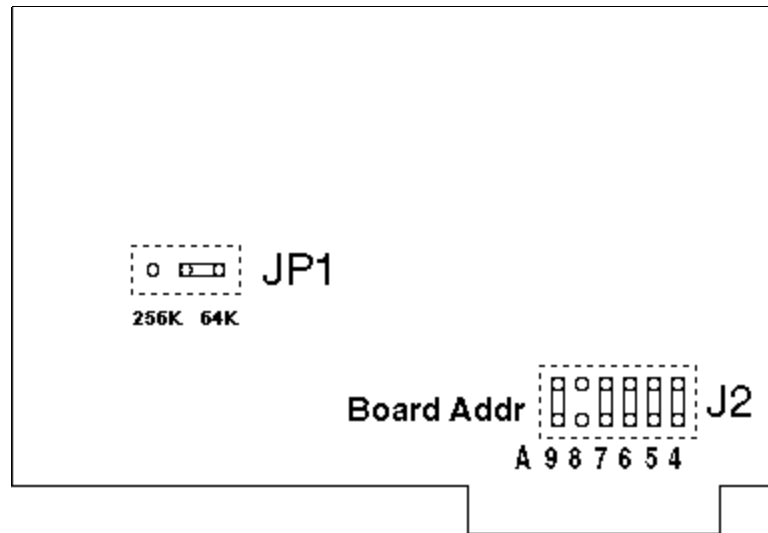

Figure 68. 64K Advanced Trace Board Jumpers and Headers
- The ATR64 trace board has a memory configuration with the jumper top on the right (Figure 68).